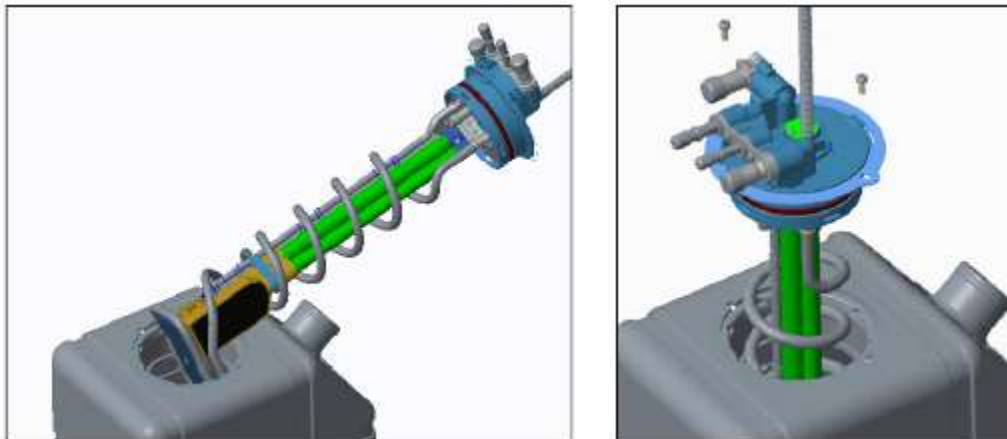

Figure 12: MFHU installation process.
18. Tilt the MFHU assembly to an approximate 45-degree angle, with the heel of the Tri-Function Sensor angled upward, overtop of the DEF tank bore hole. Place the toe of the heater coil into the tank and angle the MFHU assembly upwards as it is lowered into the DEF tank. Refer to Figure 12 below.